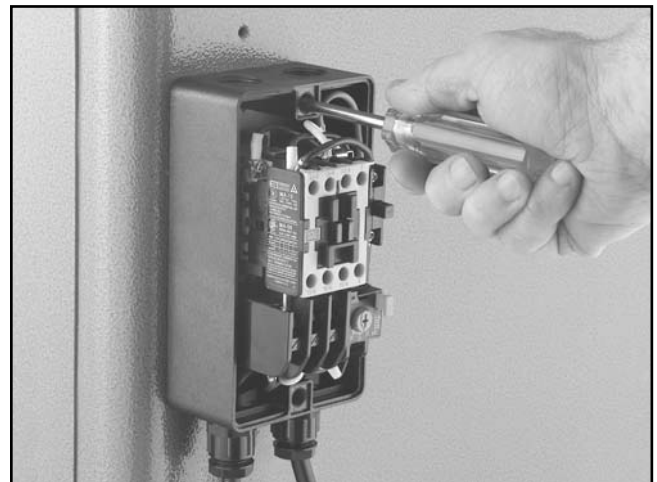

Figure 11. Fastening switch to stand.
3. Position the switch over the holes and secure it to the stand with the #10-24 x 1½" Phillips head screws, as shown **Figure 11**.